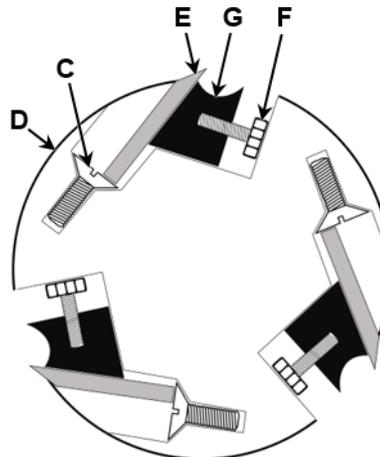
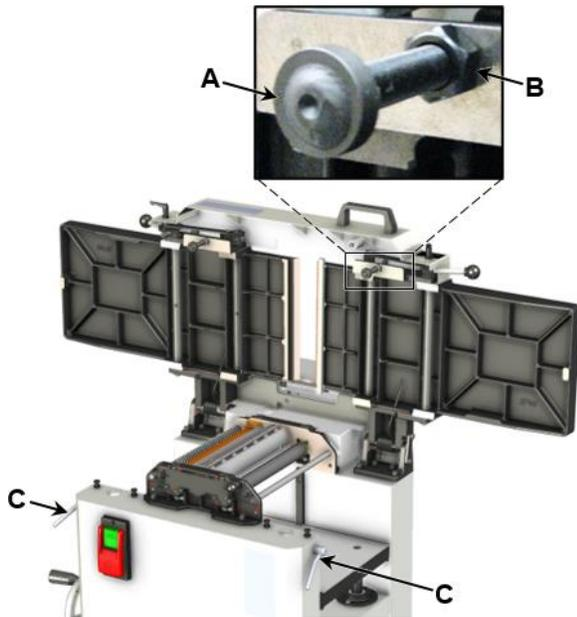

Figure 17 – Straight Knife Cutterhead (Model JPJ-12B Only)
Figure 19
Note: One cam at the back of each table is obscured by the jointer fence assembly. The cams can be accessed by removing the fence assembly, which can be done after removing four *button head socket screws* (B, Fig. 17) with a 5mm hex wrench.
3. Remove the *fence assembly* (A, Fig. 17) and *upper back panel* (C, Fig. 17) to access the *cutterhead pulley* (O, Fig. 19).
CAUTION Always rotate the *cutterhead* (D) via the *cutterhead pulley* (O, Fig. 19). Do not contact the cutterhead itself to rotate it.
5. Rotate the *cutterhead* (D) until one of the blades is at its highest point in its cutting arc.
20. After all knife adjustments are completed, the *upper back panel* (C, Fig. 17) and the *fence assembly* (A, Fig. 17) should be placed back on the machine before operating.
Refer to Figure 19:
Note: The front ends of the rollers can be accessed when the jointer table is raised and the machine is in the planer orientation (see *sect. 9.1, Jointer to Planer Setup*). The back ends of the rollers can be accessed by taking off the *jointer fence assembly* (A, Fig. 17) with a 5mm hex wrench and the *upper back panel* (C, Fig. 17) with a 4mm hex wrench.
Note: Replace *upper back panel* (C, Fig. 17) and *jointer fence assembly* (A, Fig. 17) if they were removed to access the back ends of the rollers.